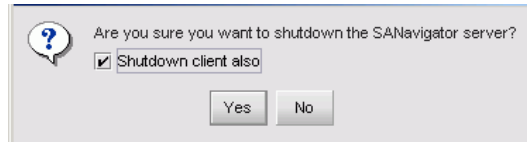

Figure 3-45 EFCM or SANavigator Message Dialog Box
- a. Select *Shutdown* from the *SAN* menu. An *EFCM* or *SANavigator Message* dialog box displays (Figure 3-45).